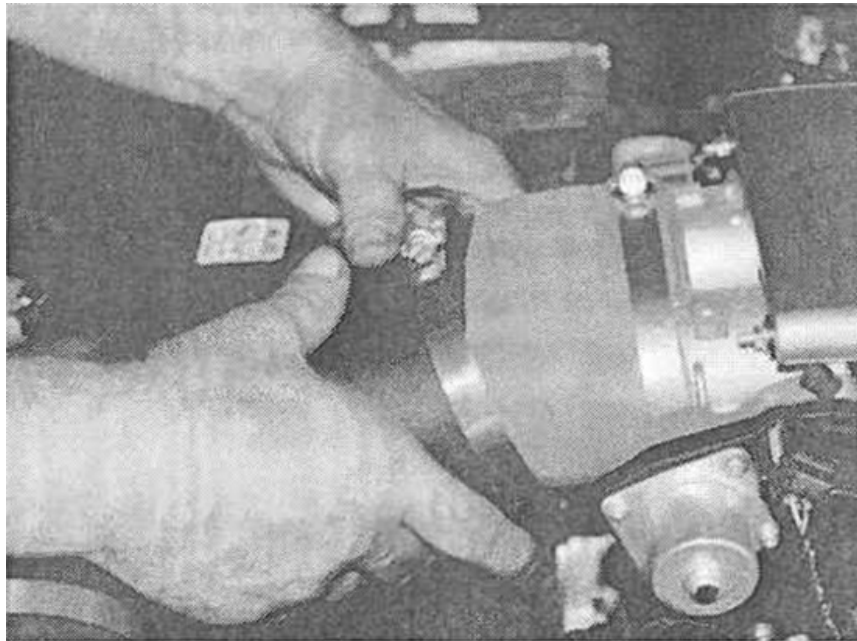

Figure 12
4. Install the other supplied silicone hose with two hose clamps over the throttle body. Fit the hose with half of it over the throttle body and the other half over the intake tube. Figure 12 shows an illustration of how to fit the hose.